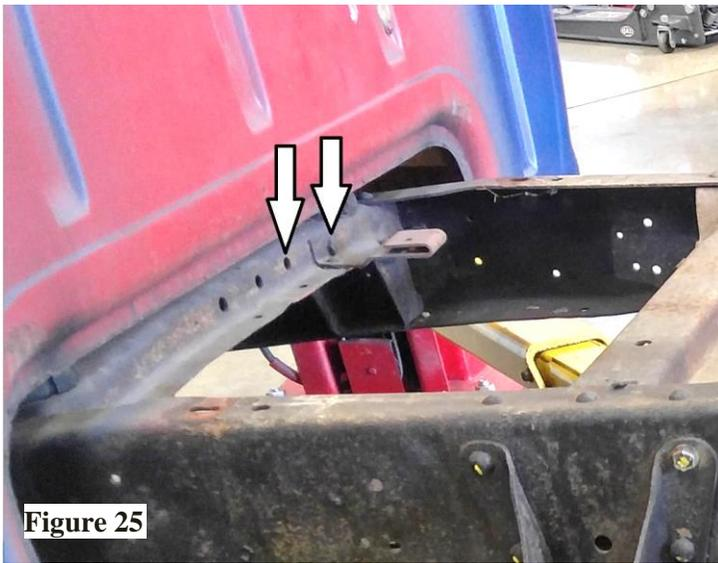

Figure 25
46. Remove the rivets from factory e-brake cable support. **(Figure 25)**